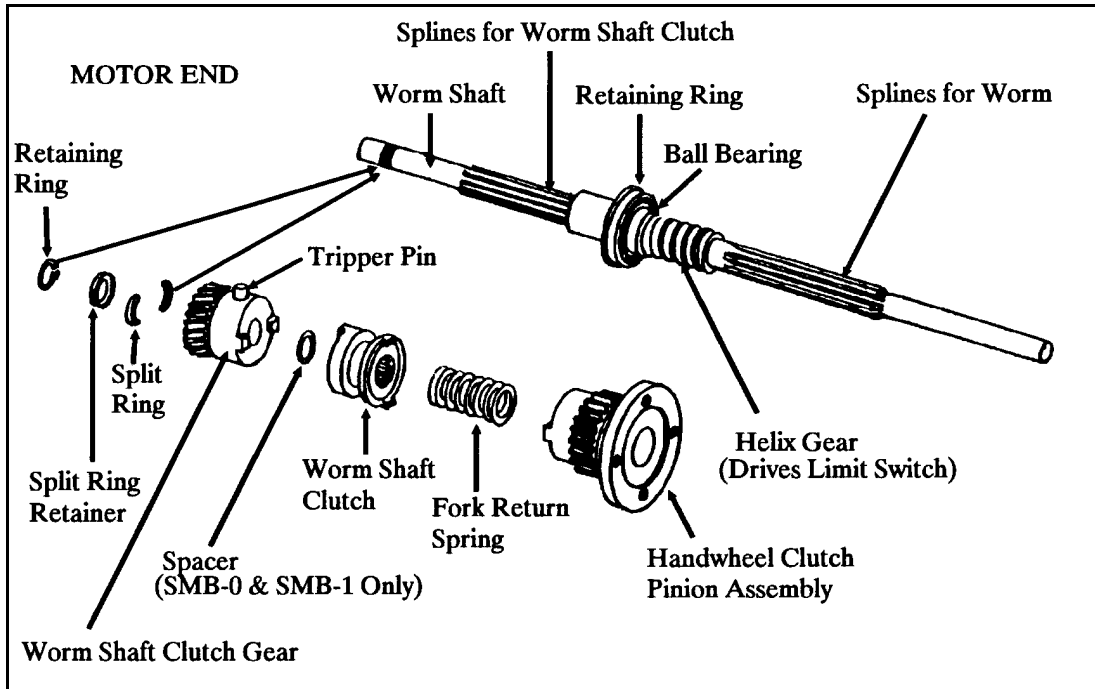

Figure 6-13 Worm Shaft
1. Remove retaining ring and split ring retainer from worm shaft. Refer to Figure 6-13
13. Worm Shaft Disassembly Refer to Figures 6-13 and 6-16
17. Worm Shaft Inspection Refer to Figures 6-13 and 6-16